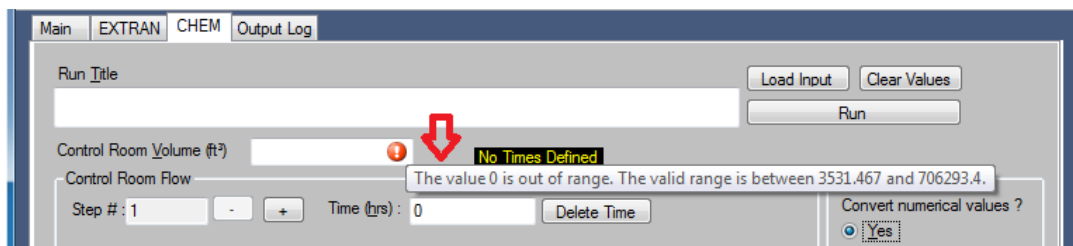

Figure 5-3: Validation Warning – input out of range
1. Field validation warnings (see Figure 5-3: Validation Warning – input out of range).